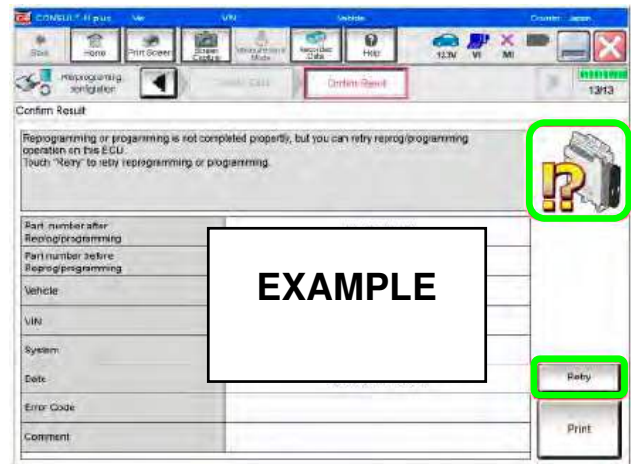

Figure 22
**If reprogramming does not complete and the “!” icon displays, as shown in Figure 22:**